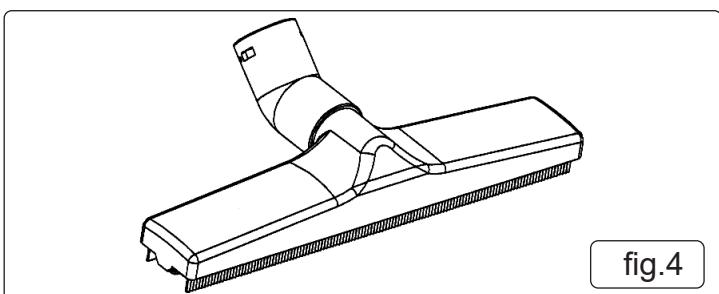

fig.4
- 4.3. **LOCKING AND UNLOCKING THE TANK. Fig.4.**
- 5.1.1. The brush nozzle is used on large, dry areas such as a floor or a bed. Refer to Fig.4.